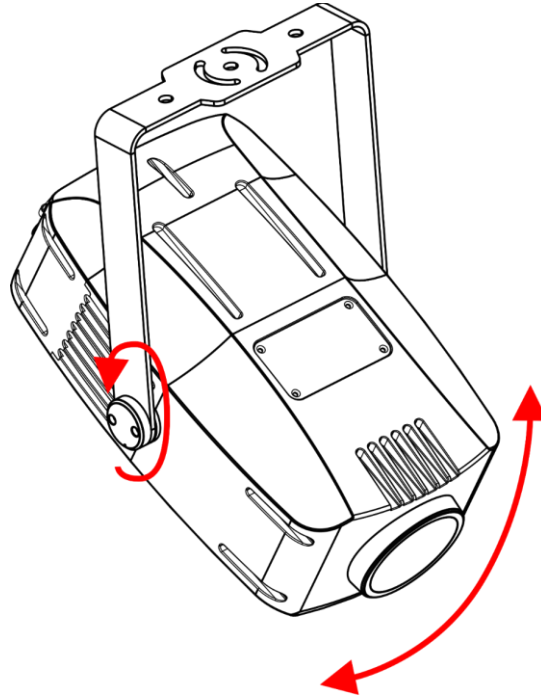

Fig. 07
- 01) Turn the **adjustment screw (04)** counterclockwise to release it.
- 02) Tilt the device to the desired angle (see Fig. 07).
- 03) Turn the **adjustment screw (04)** clockwise to tighten it. Make sure that the device cannot move freely after the **adjustment screw (04)** is tightened.